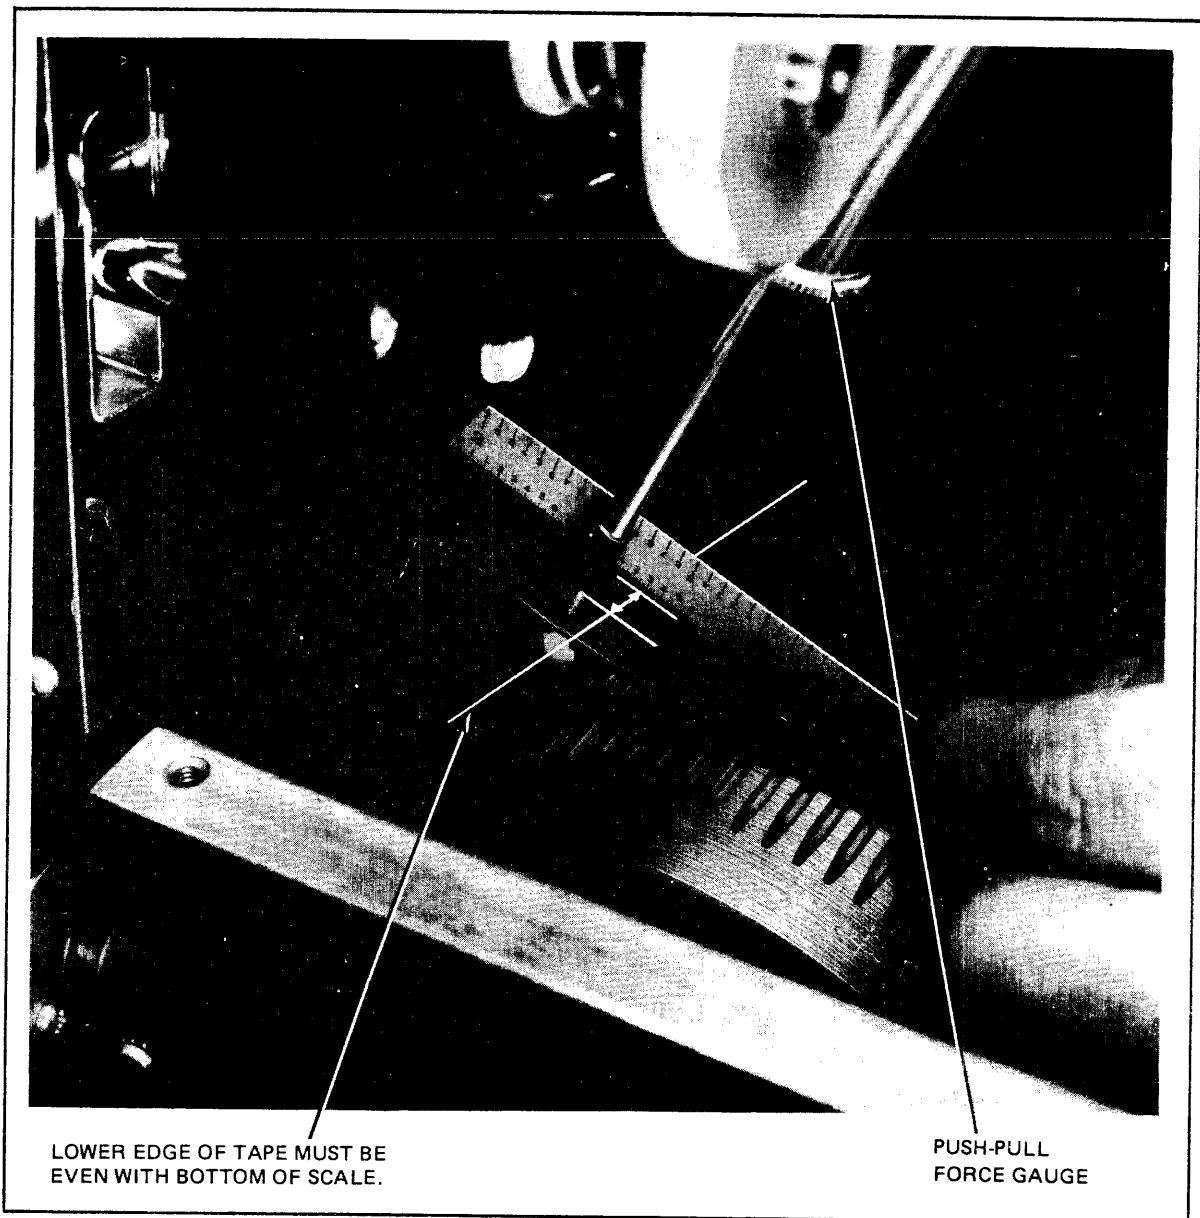

Figure 40 Checking Shuttle Drive Belt Tension, Using Force Gauge
- c. Holding a scale against the belt (figure 40), press tip of the force gauge against the belt, midway between the pulleys. Press gauge down against the belt until the lower edge of scale is aligned with the 1/4-inch mark on the gauge tip. The force gauge should indicate 16 ounces ( $\pm$ two ounces).